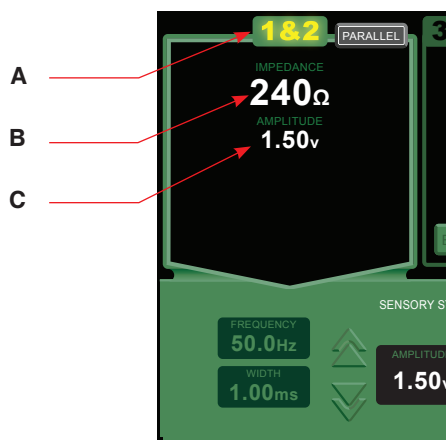

Figure 16 Typical Parallel Bipolar Stimulation Screen - ACTIVE
- If the patient is not responding: (1) reposition the electrode, and (2) verify the proper selection of frequency and width values.
- If the patient is responding at too low an amplitude value (indicating an undesired proximity to a motor nerve): (1) reposition the electrode and (2) verify the proper selection of frequency and width values.
- If performing a parallel bipolar procedure, touch the PARALLEL button (see figure 16).